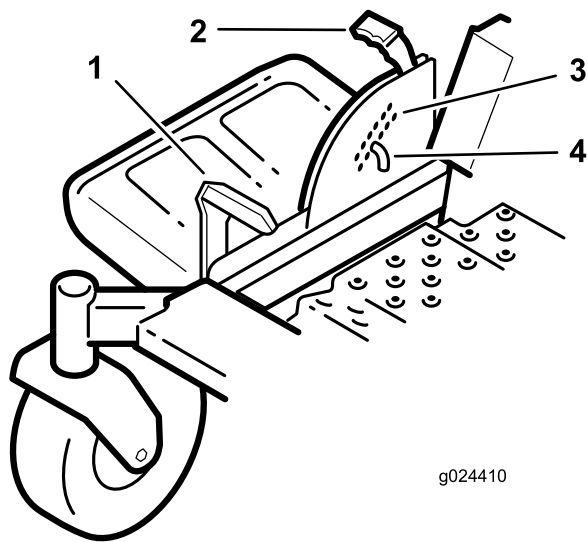

Figure 24
1. Push on the deck lift pedal with your foot and raise the mower deck to the transport lock position (also the 114 mm (4-1/2 inch) cutting height position) (Figure 24).
2. To adjust, remove the pin from the height-of-cut bracket (Figure 24).
3. Select a hole in the height-of-cut system corresponding to the height-of-cut desired and insert the pin (Figure 24).